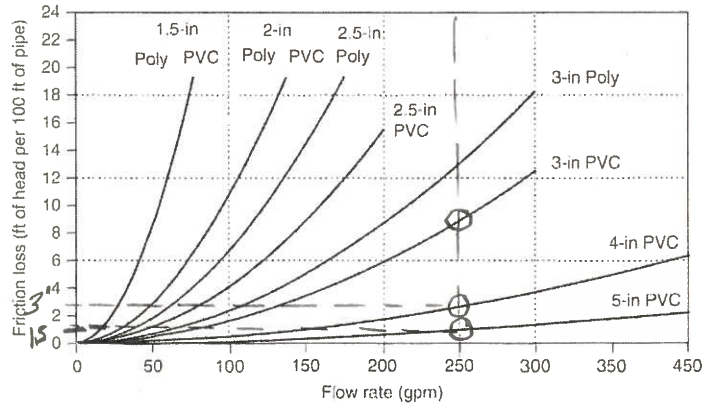

Fig. 8.35 Friction Head Loss
HEAD LOSS FROM FIG 8.35
FROM (a), FIND NEW HEAD LOSS FROM FIG 8.35
- Using the choices in Fig 8.35, what size pipe would keep losses to around 20% at peak demand?
d) FROM FIG 8.35